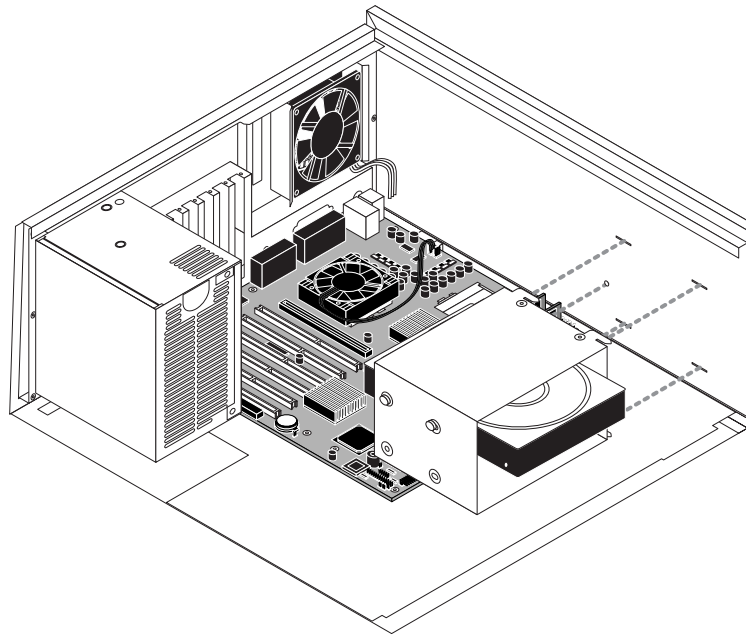

FIGURE 4-26 Removing the HDD and bracket
4. Insert the hooks on the HDD bracket into the slots on the top of the chassis and slide the bracket toward the front panel to secure it (see Figure 4-26 on page 4-52).